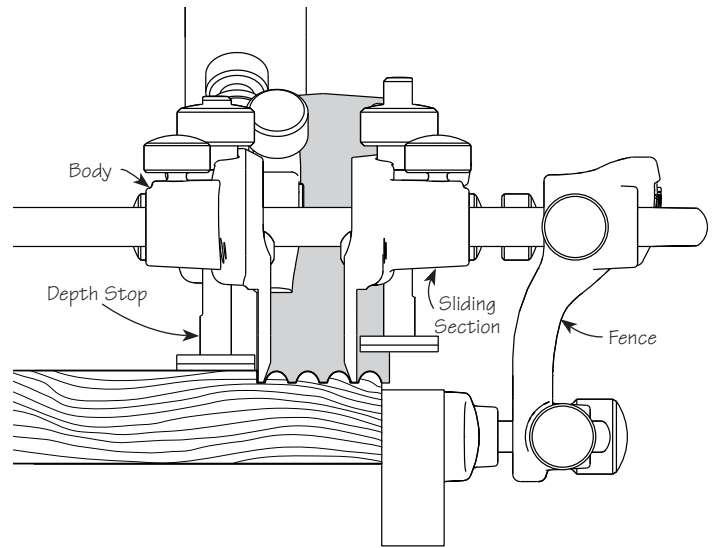

Figure 13: Cutting reeds.
2. Bring the sliding section in under the blade and position it such that the bottom edge of the skate is aligned behind the blade inside the outer reed, as shown in **Figure 13**.